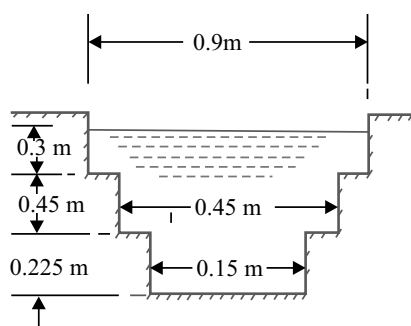

Fig. 9.12
- Find the discharge over a stepped rectangular notch, as shown in Fig. 9.12. Take co-efficient of discharge for all the portions as 0.64.